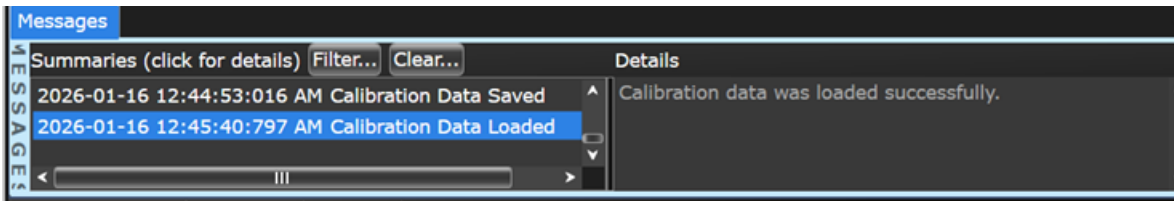

Figure 17 Messages section view after successfully loading Calibration Data
- 4 The **Messages** area of the UALink Rx Test Application indicates whether or not the calibration data was loaded successfully (Figure 17).